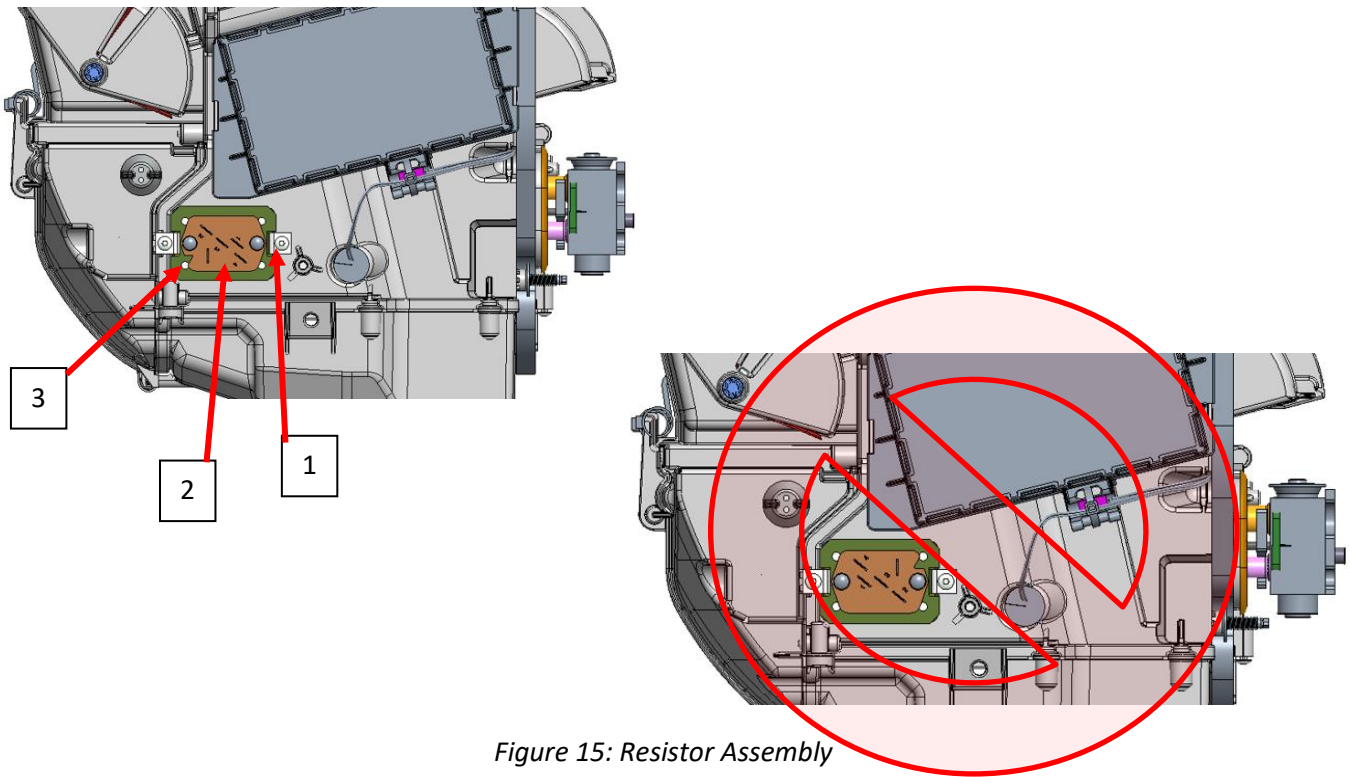

Figure 15: Resistor Assembly
**NOTE: Resistor must be inserted in correct orientation. Correct and incorrect orientation is shown in figure 15. Corner notch should be in bottom left corner relative to orientation shown.**